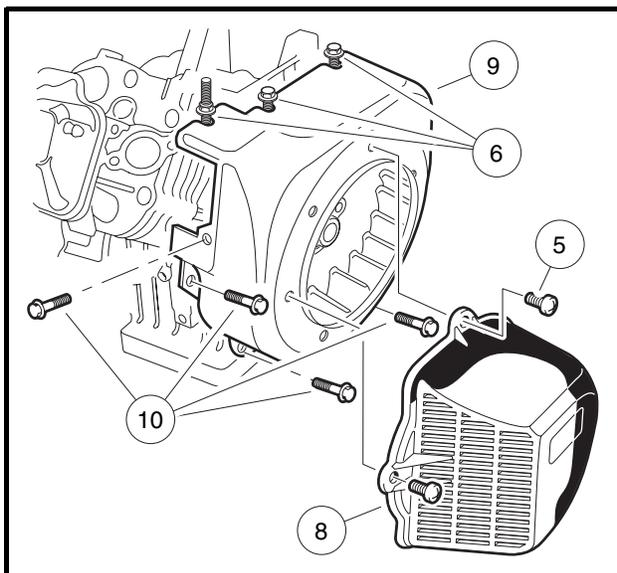
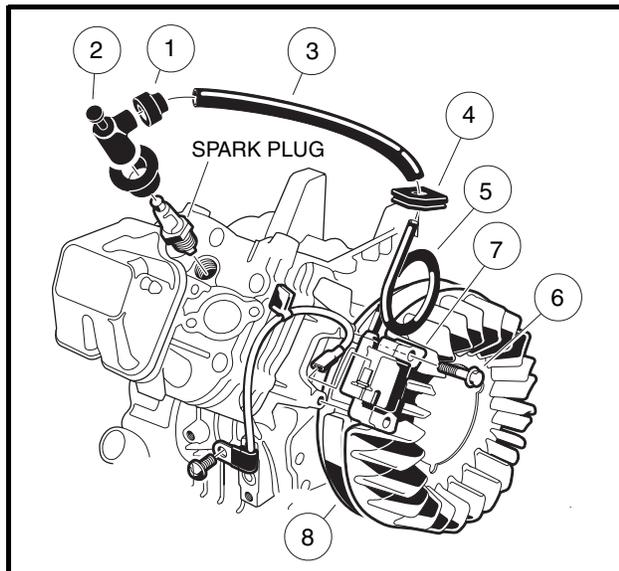
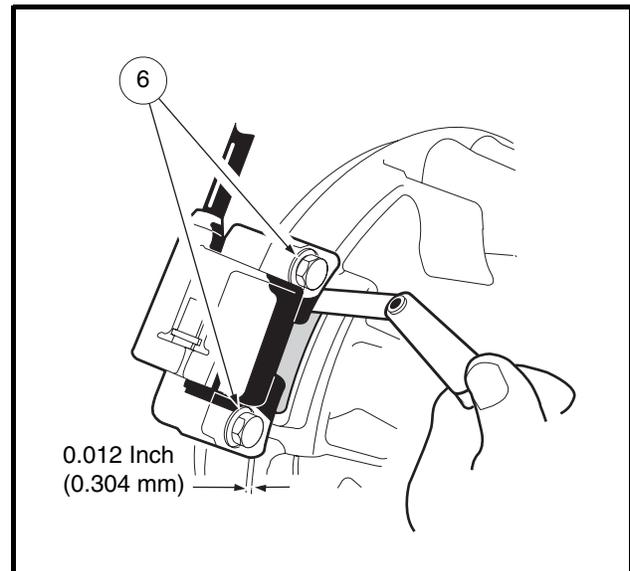

Figure 12-26 Fan Housing and Shroud Installation
Figure 12-28 Coil Installation
Figure 12-29 Set Air Gap
6. Remove the pan-head bolts (5) securing the fan shroud (8) to the fan housing (9) (**Figure 12-26, Page 12-25**).
7. Loosen, but do not remove, the three bolts (6) attaching the fan housing as shown (**Figure 12-26, Page 12-25**).
8. Remove the remaining four bolts (10) attaching the fan housing as shown (**Figure 12-26, Page 12-25**), then while opening the housing, detach the spark plug wire grommet (4) from the housing (**Figure 12-28, Page 12-26**).
1. Remove the rubber gasket (1) on the plug cap (2) by rolling back the gasket onto the spark plug wire (Figure 12-28, Page 12-26).
2. Remove the cap (2) from the wire by turning the cap counterclockwise three or four revolutions while gently pulling it off the wire.
3. Remove the gasket (1) and protector tube (3) from the old coil. **See following NOTE.**
4. Remove the grommet (4) from the old spark plug wire. Clean the grommet and place it on the new spark plug wire (5).
8. Install the gasket (1) on the cap (2).
9. Position the ignition coil (7) onto the cast mounting bosses on the engine crankcase and tighten the two mounting bolts (6) to finger tight at this time.
10. Rotate the flywheel (8) until the magnet is positioned directly under the ignition coil. Use a 0.012-inch (0.304 mm) bronze feeler gauge to set the air gap between the ignition coil and the flywheel magnet. Tighten the two mounting bolts (6) to 30 in-lb (3.4 N·m) (Figure 12-29, Page 12-26).
14. Install the four remaining flange bolts that secure the fan housing to the engine crankcase. Tighten all seven mounting bolts to 90 in-lb (10.2 N·m) (**Figure 12-26, Page 12-25**).
16. Install the fan shroud with four pan-head bolts (5). Tighten to 50 in-lb (5.7 N·m) (**Figure 12-26, Page 12-25**).